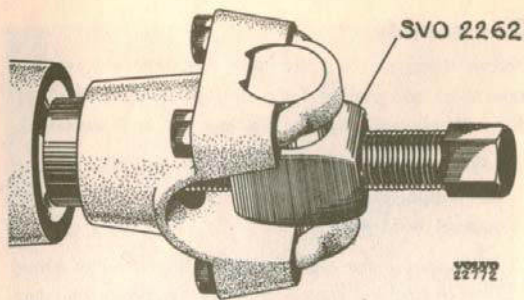
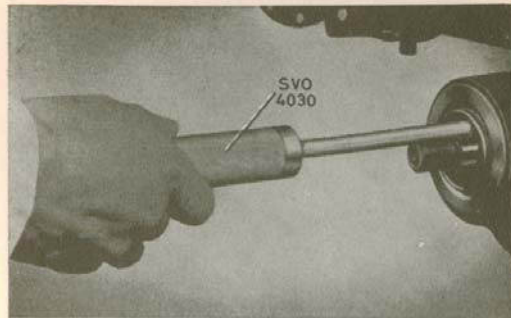

Fig. 5-5. Removing the flange
Fig. 5-6. Removing the oil seal
2. Remove the flange nuts by using wrench SVO 2409 as holder. Pull off the flange with tool SVO 2262, see Fig. 5-5. Remove the old oil seal with SVO 4030, Fig. 5-6.
8. Remove the nut for the flange (22). Use tool SVO 2409 as holder. Pull off the flange with puller SVO 2262, see Fig. 5-5. Press off the pinion (28).
9. Remove the oil seal (25) by using SVO 4030, see Fig. 5-6. Then remove the oil slinger (24) and the forward pinion bearing (27).